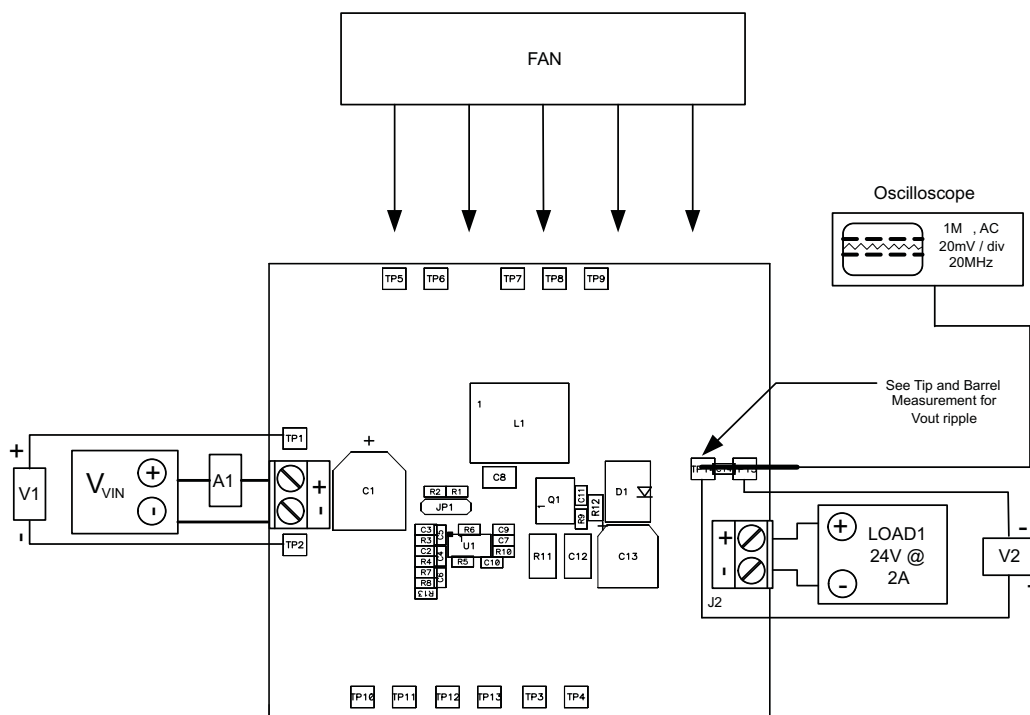

Figure 2. TPS40210EVM Recommended Test Set-Up
Shown in Figure 2 is the basic test set up recommended to evaluate the TPS40210EVM. Please note that although the return for J1 and JP2 are the same system ground, the connections should remain separate as shown in Figure 2.
2. Prior to connecting the dc input source, V_{IN} , it is advisable to limit the source current from V_{IN} to 8.0 A maximum. Make sure V_{IN} is initially set to 0 V and connected as shown in Figure 2.
3. Connect the ammeter A1 (0 A to 8 A range) between V_{IN} and J1 as shown in Figure 2.
4. Connect voltmeter V1 to TP1 and TP2 as shown in Figure 2.
5. Connect LOAD1 to J2 as shown in Figure 2. Set LOAD1 to constant current mode to sink 0 A_{DC} before V_{IN} is applied.
6. Connect voltmeter, V2 across TP14 and TP15 as shown in Figure 2.